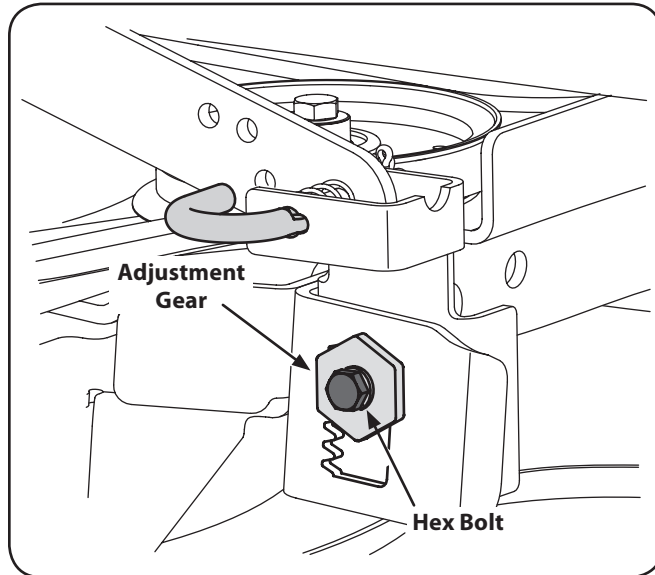

Figure 6-5
3. Loosen, but do NOT remove, the hex bolt on the left deck hanger bracket. See Figure 6-5.
4. Using a wrench, raise or lower the left side of the deck by turning the adjustment gear. See Figure 6-5.